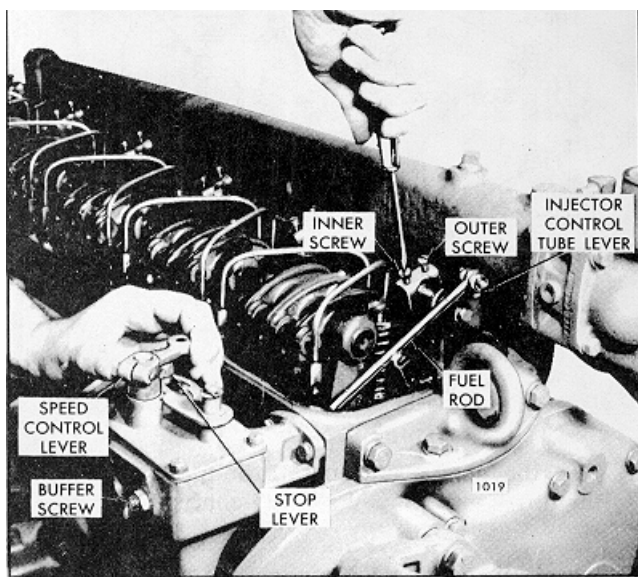

Figure 1 - Adjusting governor Cap
- 3 Start the engine and loosen the idle speed adjusting screw lock nut and adjust the idle screw to obtain the desired idle speed (Fig 1). Hold the screw and tighten the lock nut to retain the adjustment The recommended idle speed is 450 rpm, but may vary with special engine applications.
- 8 Check the gap between the low speed spring cap and the high speed plunger with a .0015" feeler gage tool J 3172 as shown in Fig 1. If the gap setting is incorrect, loosen the lock nut and adjust the gap adjusting screw.